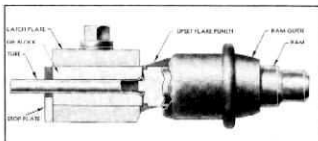

Fig. 14—Flaring Operation—First Flare
6. Using Wrench J-2185-22, draw the latch plate nuts down tight to prevent the tube from slipping. Tightening the nuts alternately (beginning with the nut on the closed side) will prevent distortion of the plate. Remove the punch and the ram. Now reverse the punch and put it back into the tool body. Install the ram and tap it lightly until the face of the upset flare punch contacts the face of the die blocks (fig. 14). This completes the first operation. Remove the ram and the punch.